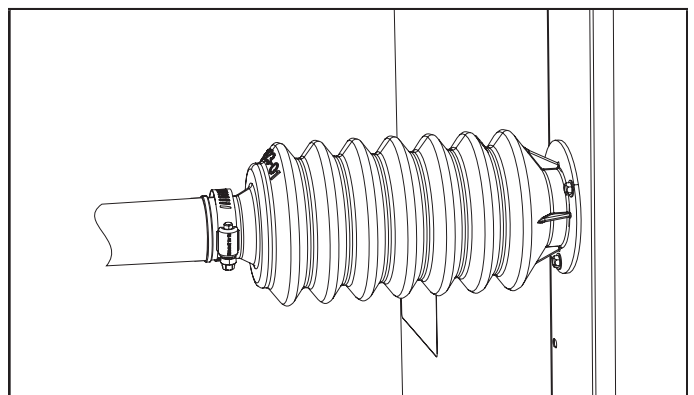

FIGURE 9. Band Clamp Installed on Sleeve
- 3 - Position the band clamp as shown in figure 9 and torque to 35 in-lbs to seal sleeve to line set.
- 2 - Position the band clamp as shown in figure 9 and torque to 35 in-lbs to seal sleeve to line set.
Connect the main drain and route downward to drain line or sump. Do not connect drain to a closed waste system. See figure 9 for typical drain trap configuration.